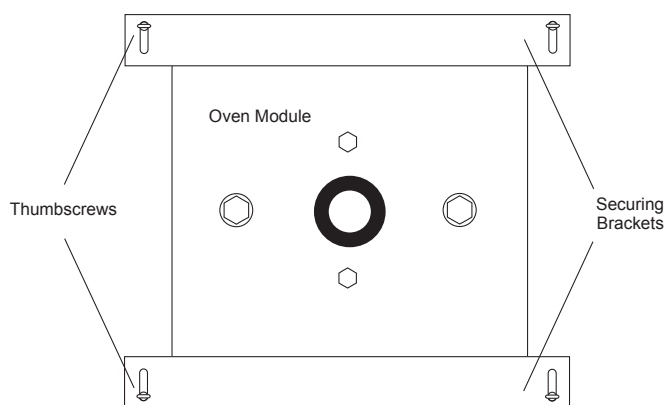

Figure 7-4
- 7.1.6 Loosen the four thumbscrews adjacent to the corners of the oven module, and slide the front and rear securing brackets away from the oven module (See Figure 7-4).